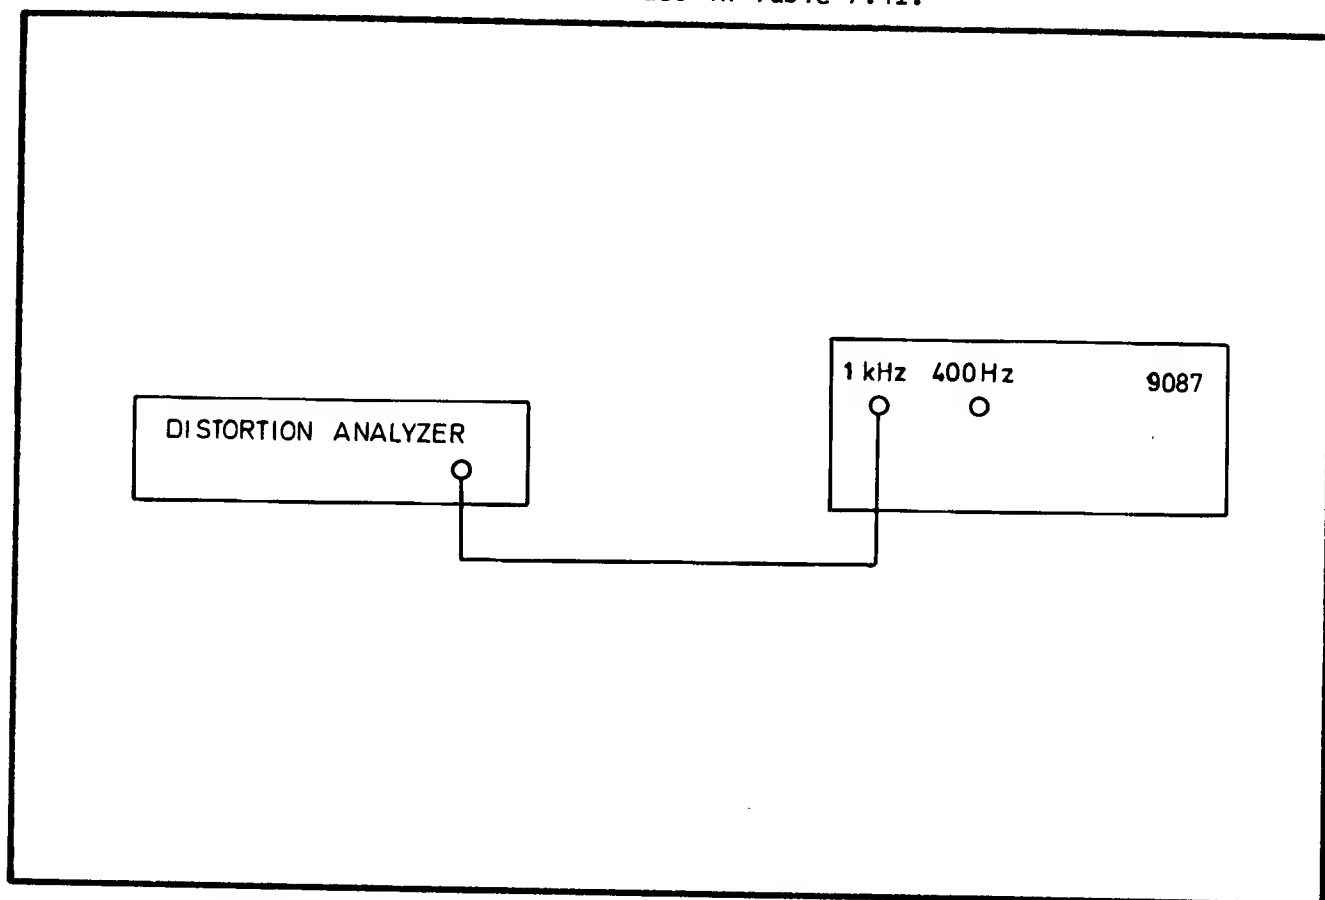

Fig. 7.29 Connections for Distortion Level Verification
- (a) Connect the test equipment as shown in Fig. 7.29.